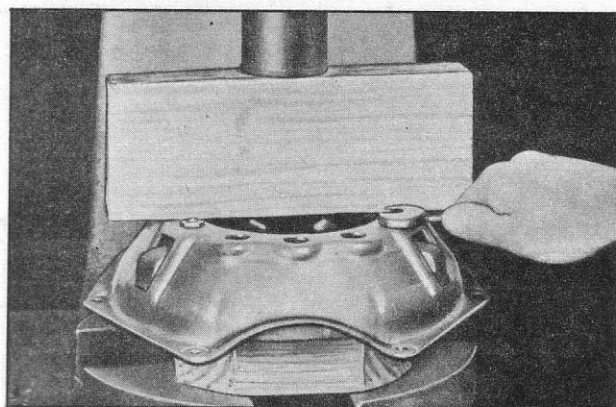

Fig. 8—Compressing Clutch
2. Place a block or bar across the top of the cover and compress the cover with the spindle. Hold compressed while the adjusting nuts are removed as shown in Figure 8, then slowly release pressure to prevent springs flying out.
10. Place a bar across the cover, as shown in Figure 8 and slowly compress, guiding the holes in the cover over the pressure plate lugs and all springs into their spring seats in the cover.